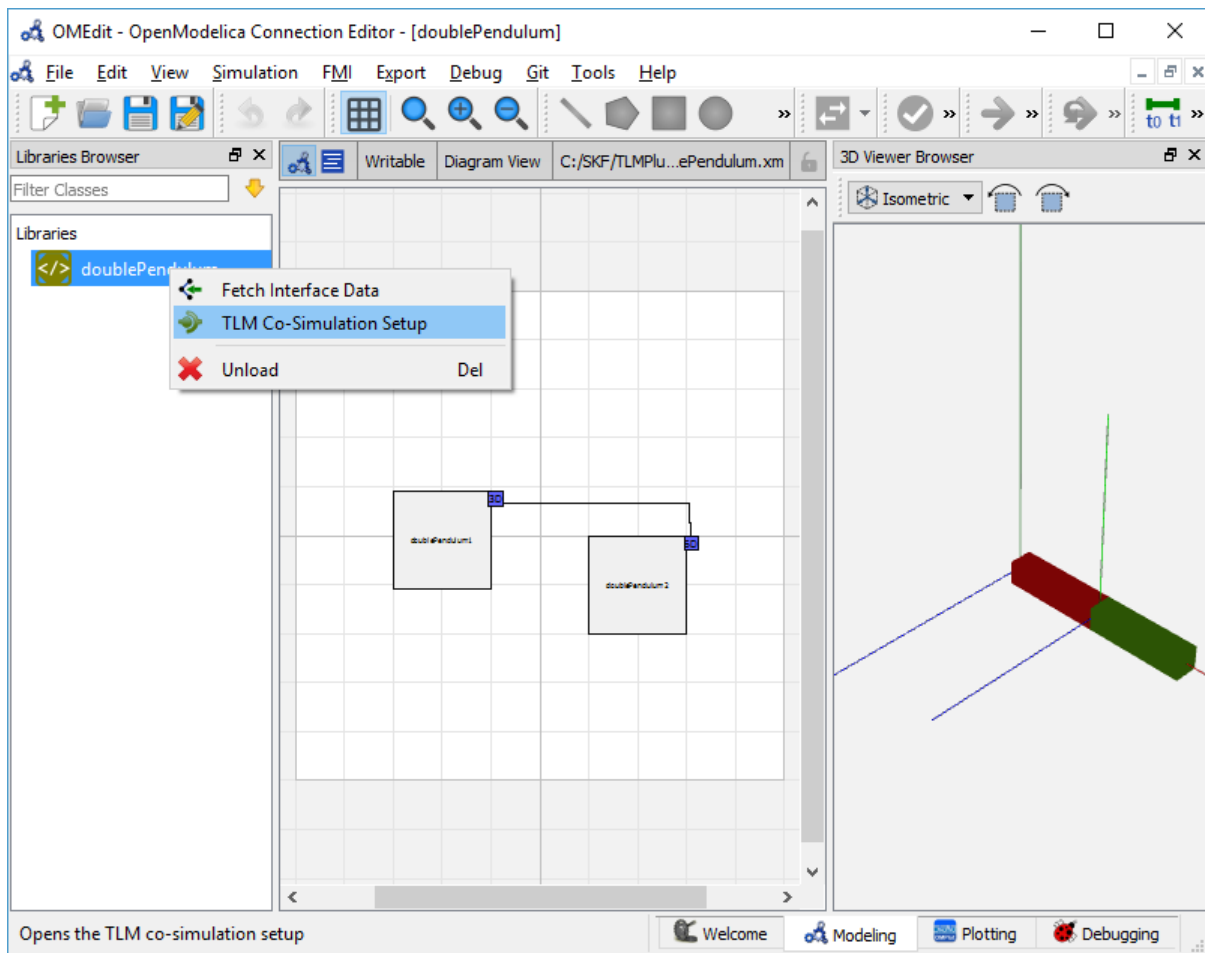

Figure 7.3: Co-simulating and Fetching Interface Data of a composite model from the Popup Menu .
- Right click the composite model in the **Libraries Browser** and choose **TLM Co-Simulation setup** from the popup menu (see Figure 7.3)
- Right click the composite model in the **Library Browser** and choose **Fetch Interface Data** from the popup menu (see Figure 7.3).